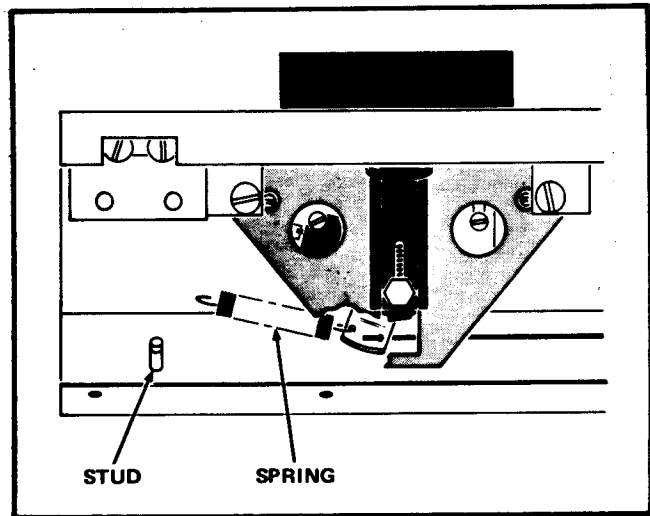

FIGURE 27
15. Install the Coil Spring on the Stud at the upper end of the Selection Button Assembly. See Figure 27.